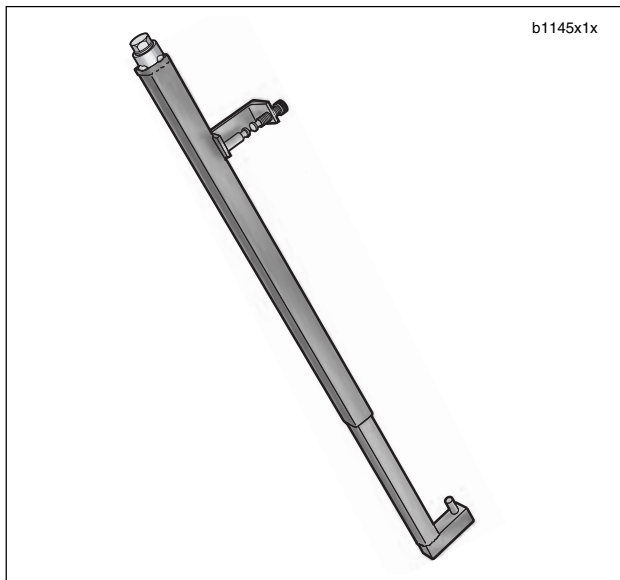

Figure 2-67. Fork Spring Compressing Tool (HD-45966)
6. See Figure 2-67. Move the fork assembly from the holding tool and compress fork in the FORK SPRING COMPRESING TOOL.
8. Remove preload washer (4) and slider piston (5).
9. See Figure 2-67. Uncompress fork and remove from FORK SPRING COMPRESING TOOL.